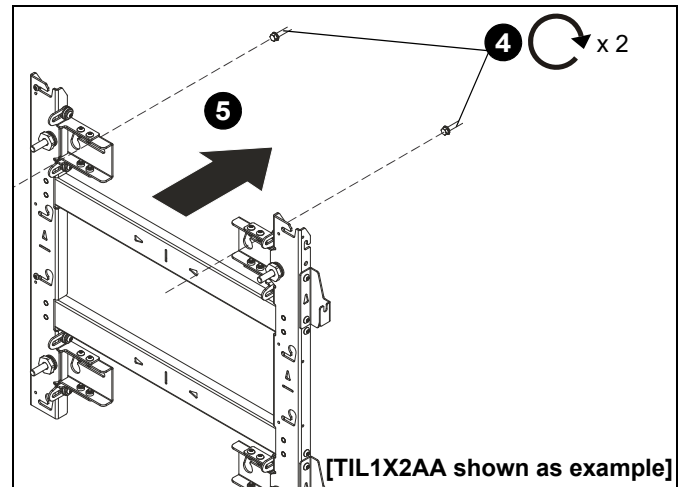

Figure 5
4. Partially install two fasteners into wall, but do NOT completely tighten to wall. (See Figure 5)
5. Hang wall mount, aligning upper teardrop slots over fasteners, and adjust side-to-side for proper location. (See Figure 5)